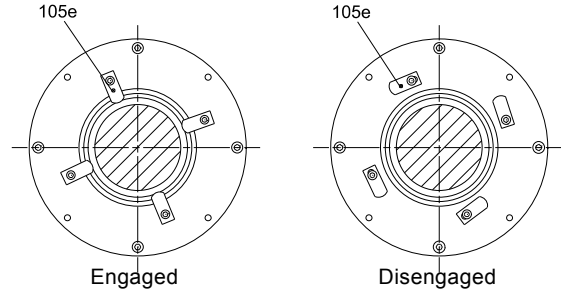

Fig. 63 Shaft seal locks
1. Make sure the shaft seal locks (pos. 105e) are engaged. See fig. 63.
2. Lubricate and fit the O-rings (pos. 105b and 105c).
3. Push the shaft seal (pos. 105) on to the shaft.
4. Fit the circlip (pos. 77a) with the circlip pliers (C).
5. Disengage the shaft seal locks (pos. 105e) and retighten the screw (pos. 105f). See fig. 63.
6. Tighten the set screws (pos. 104b) according to section 7. *Tightening torques and lubricants* so that the shaft seal liner is engaged with the shaft.
7. Lubricate and fit the O-rings (pos. 104a and 49a) in the seal ring (pos. 104).
8. Fit the seal ring (pos. 104).
2. Lubricate and fit the O-rings (pos. 105b, 105c and 106a).
3. Push the shaft seal (pos. 105) into place on the shaft.
4. Mount the screws (pos. 105d) and tighten them according to section 7. *Tightening torques and lubricants*.